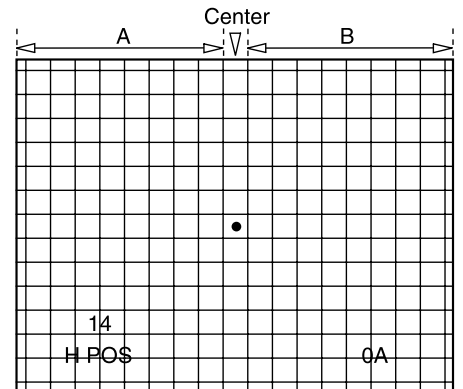

Fig. 1-1
- Use the volume keys on the jig remote controller to adjust the dot mark in the centre of crosshatch screen to the exact centering position by allocating an equal number of squares on the left and right side of the dot. A=B (Fig. 1-1)